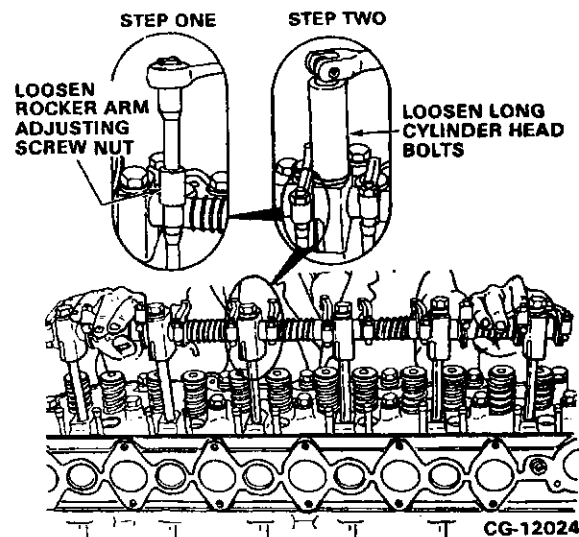

Figure 4.5. Remove Rocker Arm Assembly
3. Loosen the rocker arm adjusting nuts and screws. Then remove the rocker arm bracket bolts (long cylinder head bolts). Remove the rocker arm assembly from the cylinder head. Refer to Figure 4.5.